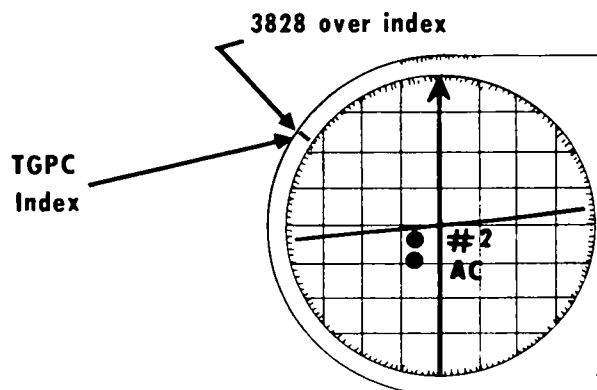

Figure E-4. Direction AC to piece 2.
(3) Step 3. Plot the AC. Mark off 100 meters from the center of the board along the appropriate azimuth (red arrow). Place a dot and label it AC. This represents the location of the aiming circle.
(4) Step 4. Orient the board in the direction from the AC to piece 2. Rotate the disk until 3828 (0628 + 3200) is over the TGPC index (fig E-4).